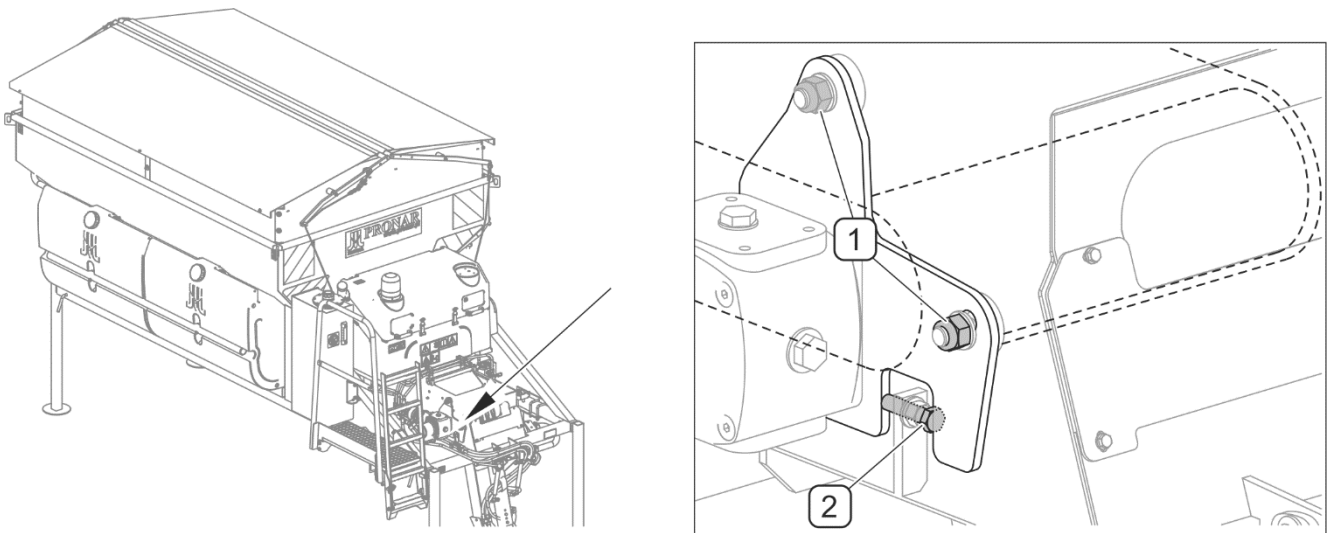

FIGURE 5.10 Adjustment of drive roller
(1) - locking nut; (2) - adjusting screw
If the conveyor belt is shifted sideways to the edge of the conveyor drive roller (FIGURE 5.10), make proper adjustment of the roller. The adjustment is made only on one side of the conveyor using bolt (2) by changing the position of the roller drive transmission bracket. Start the sand spreader's engine. Activate "Unloading" function in "Counters" menu on the control panel. A detailed description can be found in section 4.8 UNLOADING. Loosen nuts (1) and position the belt in the middle of the roller by means of adjusting screw (2). During the adjustment, make one turn of bolt (2) and wait for some time to see the effect of the adjustment. Repeat the activity until moving conveyor belt is positioned in the middle of the conveyor roller. After adjustment, disengage conveyor drive, tighten nuts (1).